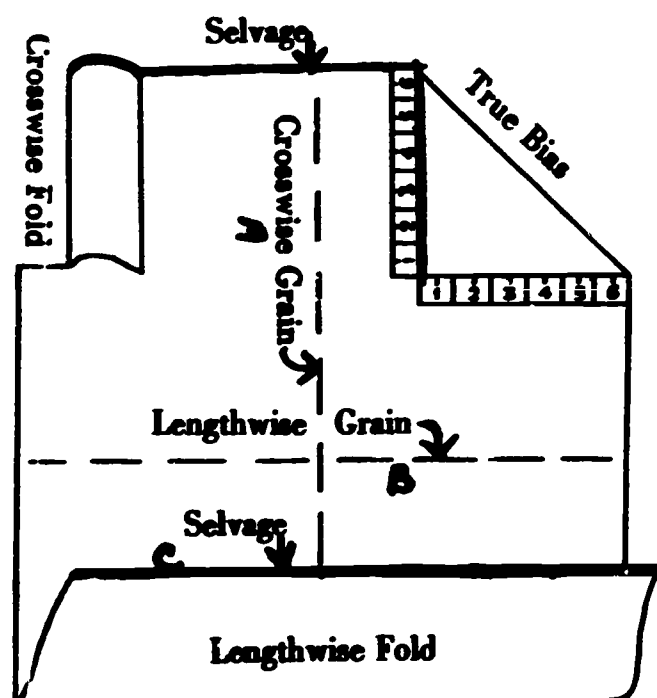

Fig. 14
**GRAIN** - direction of warp and woof threads in fabric; as, the lengthwise or crosswise grain. (Fig. 14.)
Refers to the threads running at right angles to the selvage. These threads are slightly weaker than the lengthwise threads and are used for the "straight-of-goods" only when maximum strength is not required, or when crosswise stripes are featured in the design. (Fig. 14-A).
**LENGTHWISE THREADS** - warp threads - the threads running parallel to the selvage. As a rule, the lengthwise threads are stronger than the crosswise threads, and for this reason garments are cut in such a way that the lengthwise threads run lengthwise on the body. (Fig. 14-B.)
**SELVAGE** - the finished edge of the fabric that is woven with stronger threads. There is selvage on both lengthwise edges of the fabric. (Fig. 14-C.)